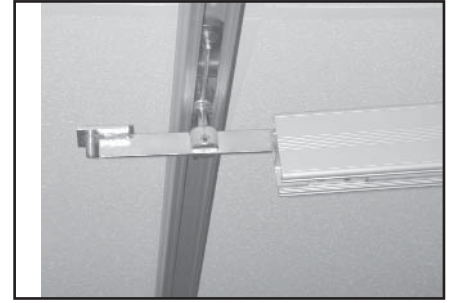

Figure 30
28. Slide the rail far enough to allow space to put the rail onto the set screw trolley. Slide the rail back onto the set screw trolley (Figure 30).
5. Slide the traverse rail away from the fixed trolley (see Figure 30).